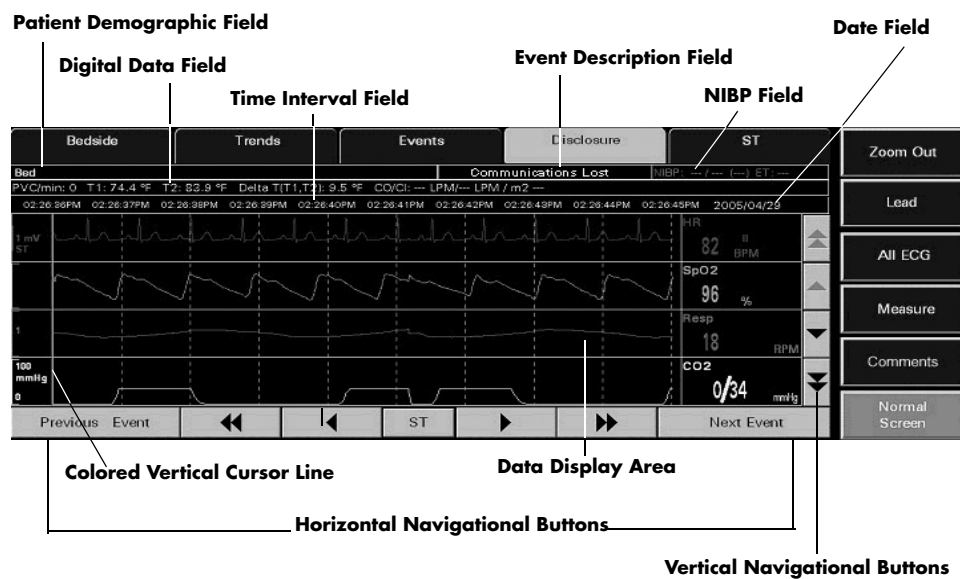

FIGURE 7-23 Disclosure Tab (Waveforms View)
The **Waveforms** view displays a selected area from the **Compressed** view of the patient's disclosure waveform (shown in FIGURE 7-23).
2. Select the **Disclosure** tab. The **Waveforms** view (shown in FIGURE 7-23) is displayed.